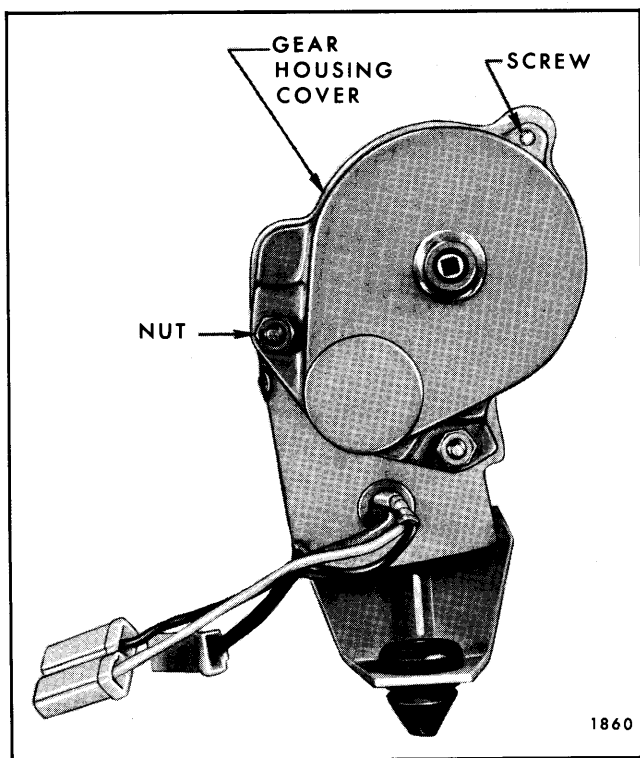

Fig. 13-71—Folding Top Lift Assembly
3. Remove nuts, washers and screw securing gear housing cover to motor assembly (Fig. 13-71).